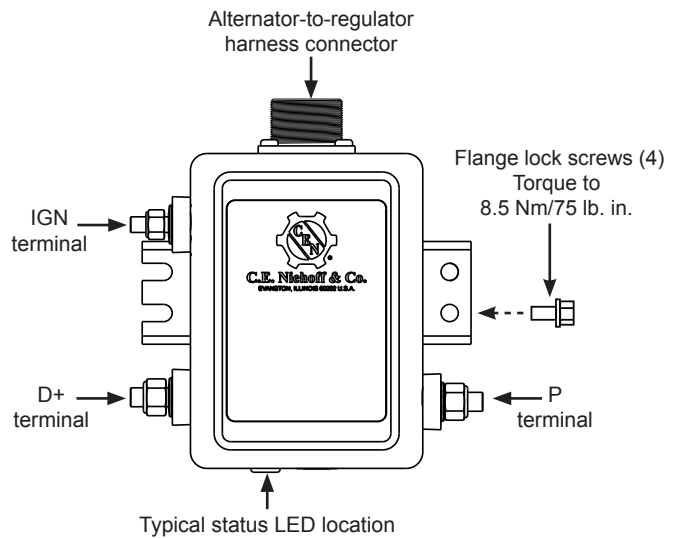

Figure 5: Typical Regulator Connections
3. Securely plug alternator-to-regulator harness into receptacle on regulator. See Figure 5 for receptacle location.
- **IGN terminal** (required) must receive voltage from vehicle switched DC ignition source or multiplex in order to energize regulator. Torque to 4.5 Nm/40 lb. in. See Figure 5.
- **D+ terminal** (if required) provides DC system battery voltage to vehicle (5A maximum) for charge indicator lamp, relay, or multiplex while alternator is producing output. Torque terminal hardware to 4.5 Nm/40 lb. in. See Figure 5.
- **P/AC terminal** (if required) taps AC voltage from alternator, typically half the charge voltage (3A maximum). P/AC terminal provides alternator RPM frequency at 10:1 ratio for use with tachometer. Torque terminal hardware to 4.5 Nm/40 lb. in. See Figure 5.